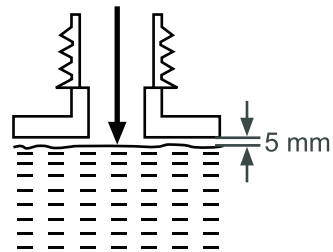

Fig. 8
3. Unscrew and remove the fuel tank cap (10).
4. Add correct fuel into the tank. Leave a minimum 5 mm of space between the top of the fuel and the inside edge of the tank to allow for expansion (Fig. 8).